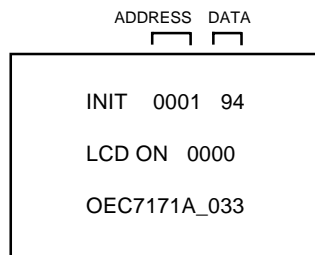

FIG. 2
3. Press both VOL. DOWN button on the set and Channel button **(6)** on the remote control for more than 2 seconds. ADDRESS and DATA should appear as FIG 2.